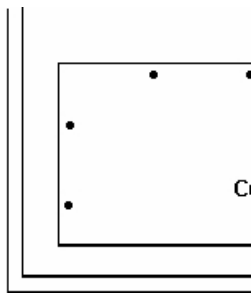

Figure 22
14. Using factory predrilled mounting holes, were possible else drill the appropriate mounting holes in the frame as shown, stay away from the coils an compressor when drilling. Attach water valve to the frame as shown in Figure 22. **Tip** : If space is limited attach icemaker fill line to valve before installing. You may need to reposition the eliminator tube on models with an internal condenser. Remember, finger tighten the compression fitting, then tighten with wrench an additional 1/4 to 1/2 turn. **DO NOT OVER TIGHTEN**, this will cause leaks and possible property damage.